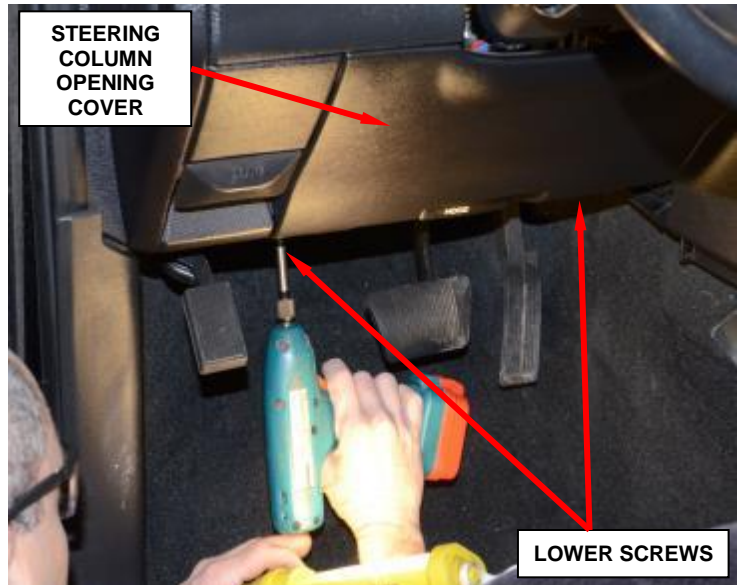

Figure 4 – Steering Column Opening Cover
- a. Remove the two lower screws from the steering column opening cover then release the two retainer clips that secure the top of the steering column opening cover to the instrument panel and remove the cover (Figure 4).